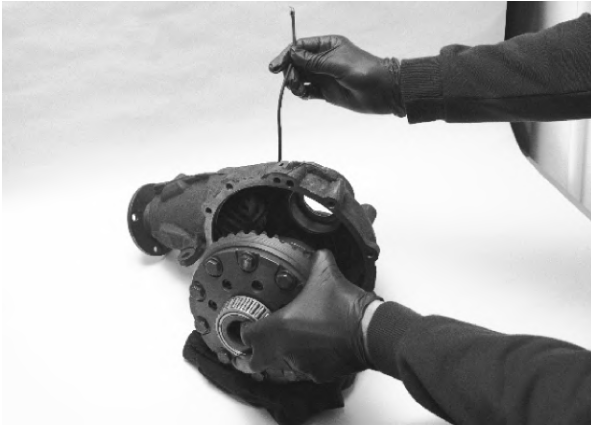

Fig. 28
Step 2. Place the Electric Locker on a clean rag. Insert the magnet cable through the drilled hole in the axle housing and pull the cable through from the outside. (**Fig. 28**)